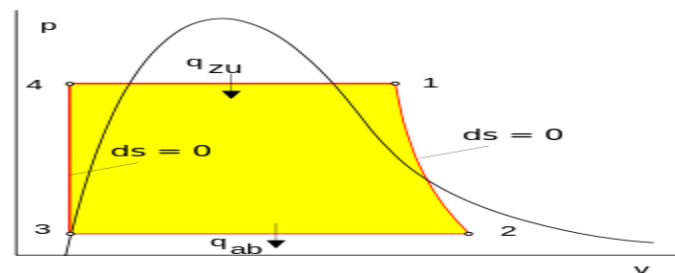

Fig.2
The steps in the Rankine Cycle as shown in Figure 1 and the corresponding steps in the pressure volume diagram (figure 2) are outlined below:
- **Pump:** Compression of the fluid to high pressure using a pump (this takes work) (*Figure 2: Steps 3 to 4*)
- **Boiler:** The compressed fluid is heated to the final temperature (which is at boiling point), therefore, a phase change occurs—from liquid to vapor. (*Figure 2: Steps 4 to 1*)
- **Turbine:** Expansion of the vapor in the turbine. (*Figure 2: Steps 1 to 2*)
- **Condenser:** Condensation of the vapor in the condenser (where the waste heat goes to the final heat sink (the atmosphere or a large body of water (ex. lake or river)). (*Figure 2: Steps 2 to 3*)